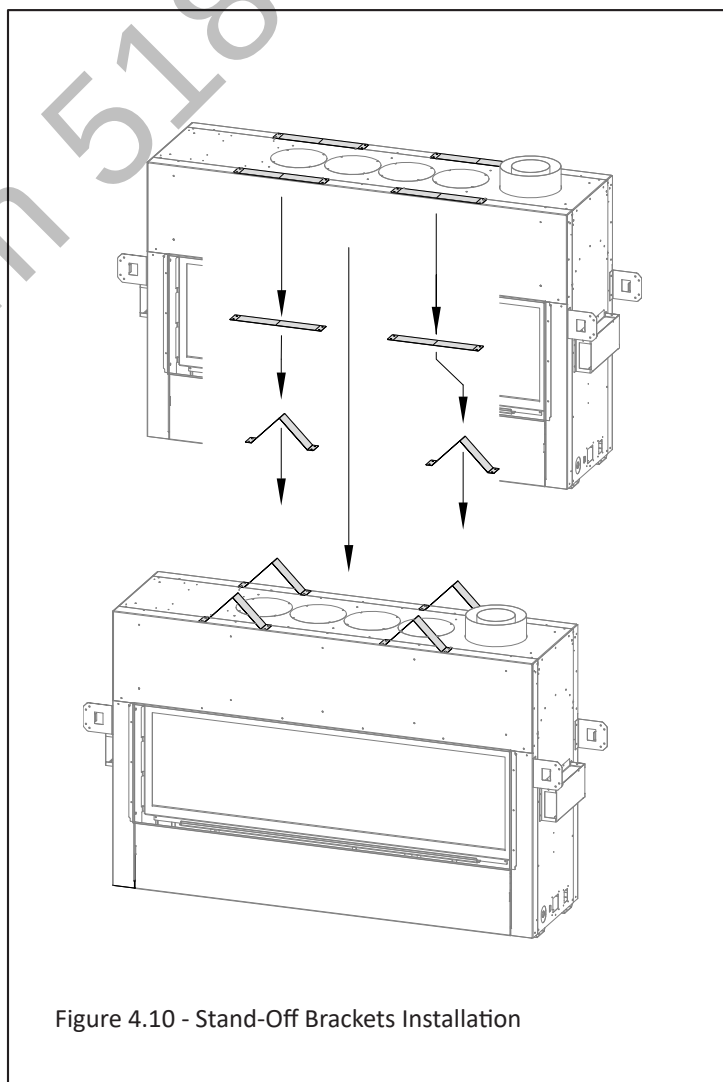

Figure 4.10 - Stand-Off Brackets Installation
5. Install stand-off brackets. See Figure 4.10.